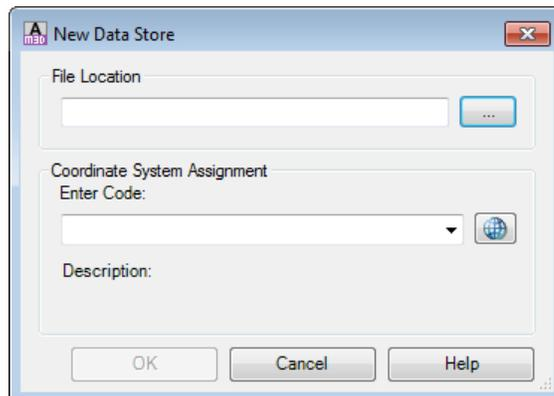

Figure 2-32 The **New Data Store** dialog box
- In this pop-up menu, choose the **New Survey Data Store** option; the **New Data Store** dialog box is displayed, as shown in Figure 2-32.